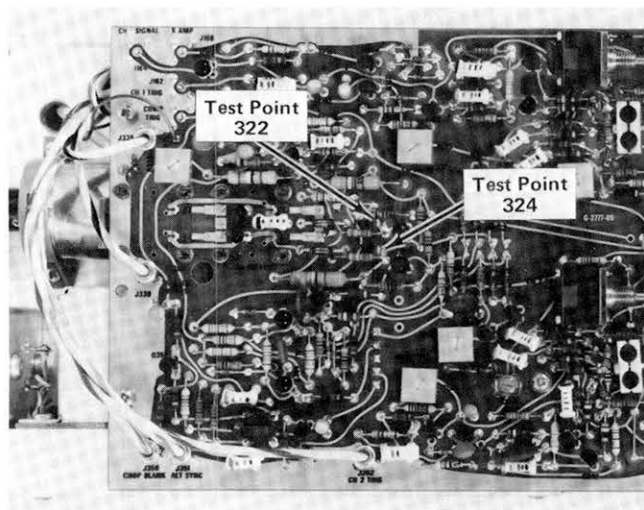

Fig. 5-8. Location of test points 322 and 324.
a. Connect the DC Voltmeter between TP322 and TP324 (see Fig. 5-8).
e. Connect two X10 probes from the Test Oscilloscope to TP322 and TP324 on the Preamp board of the 465 (see Fig. 5-8).